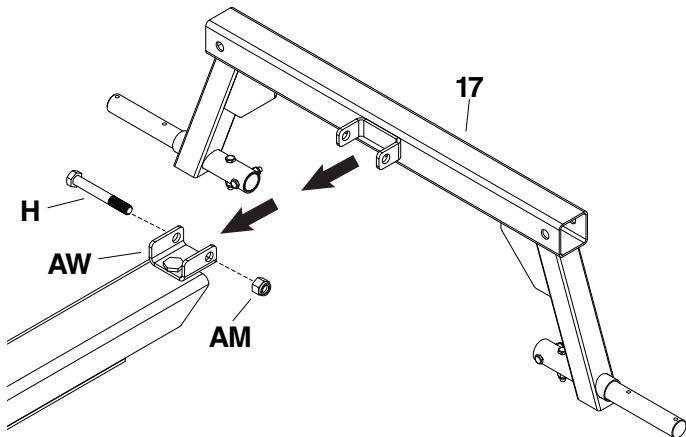

FIGURE 10
- Place the U-bracket on the axle frame assembly (17) around the pivot clevis (AW) and line up the holes.
- Insert a 1/2" x 3-3/4" bolt (H) from the right side through the axle frame assembly (17) and pivot clevis (AW).
- Secure with a 1/2" nylock nut (AM). Tighten hardware but make sure it can still pivot. See figure 10.